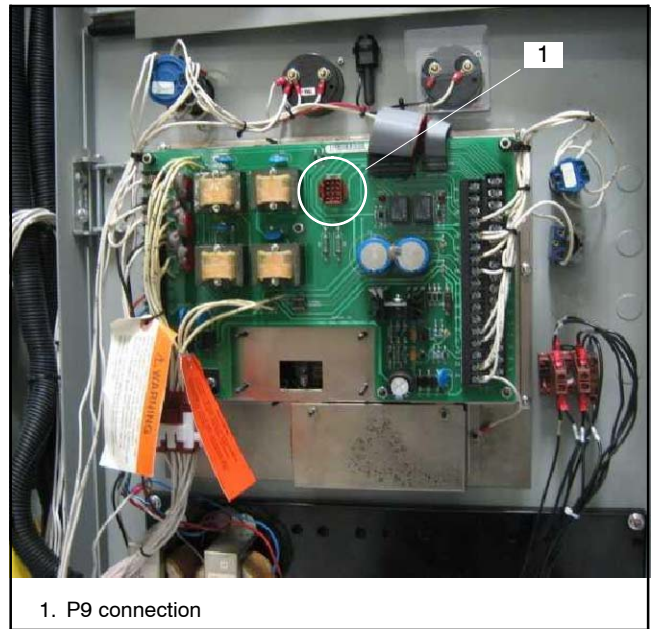

Figure 9 Plug P9 Disconnected
7. Disconnect plug P9. See Figure 9.